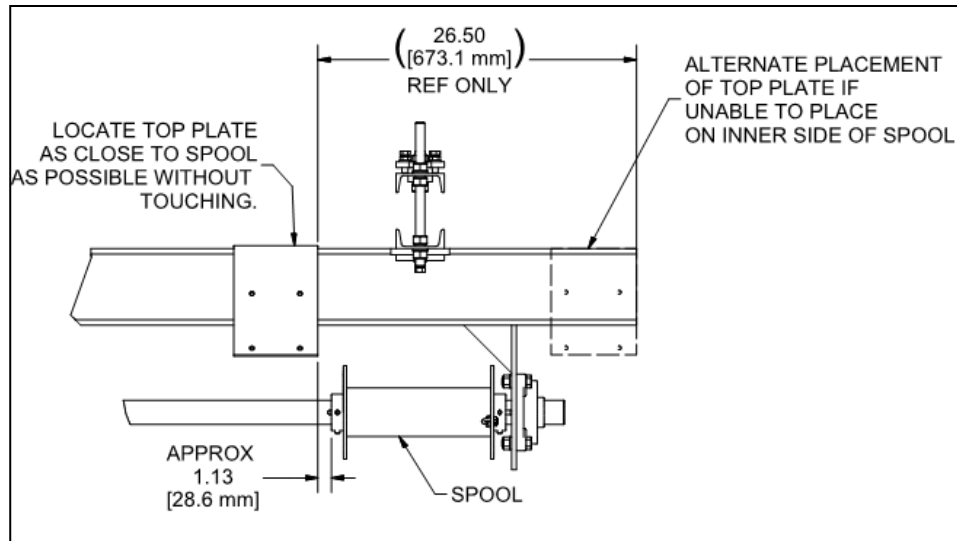

Figure 1
2. Place 805651568 Beam Clamp Top Weldment on top of I beam in location illustrated in Figure 1 on each end of the I beam.